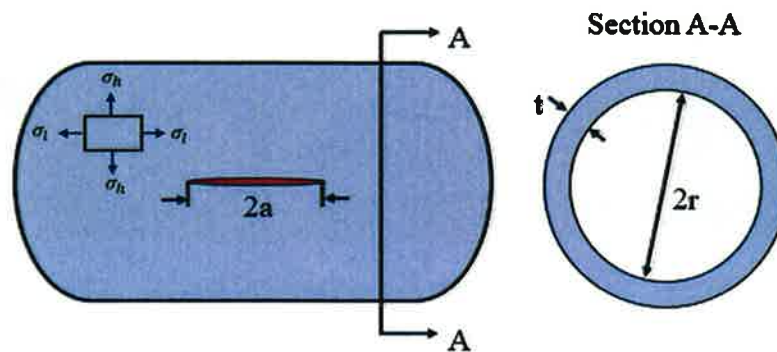

FIGURE Q1
- i. There are **NINE (9)** printed pages in this **double-sided** Question Booklet including the cover page and appendices.
1. Consider a cylindrical Liquefied Natural Gas (LNG) tank made of a high-strength steel alloy, as illustrated in **FIGURE Q1**. The internal pressure of the tank is 12 MPa, which induces hoop (σ_h) and longitudinal (σ_l) stresses in the wall of the tank. The tank has an inner radius of 0.5 meters and a wall thickness of 0.05 meters. During an inspection, a semi-elliptical surface crack was detected on the inner surface of the tank. The length of elliptical crack was 0.01 meters, and the fracture toughness of steel is $30 \text{ MPa} \sqrt{\text{m}}$. The dimensionless constant Y is 1.2.